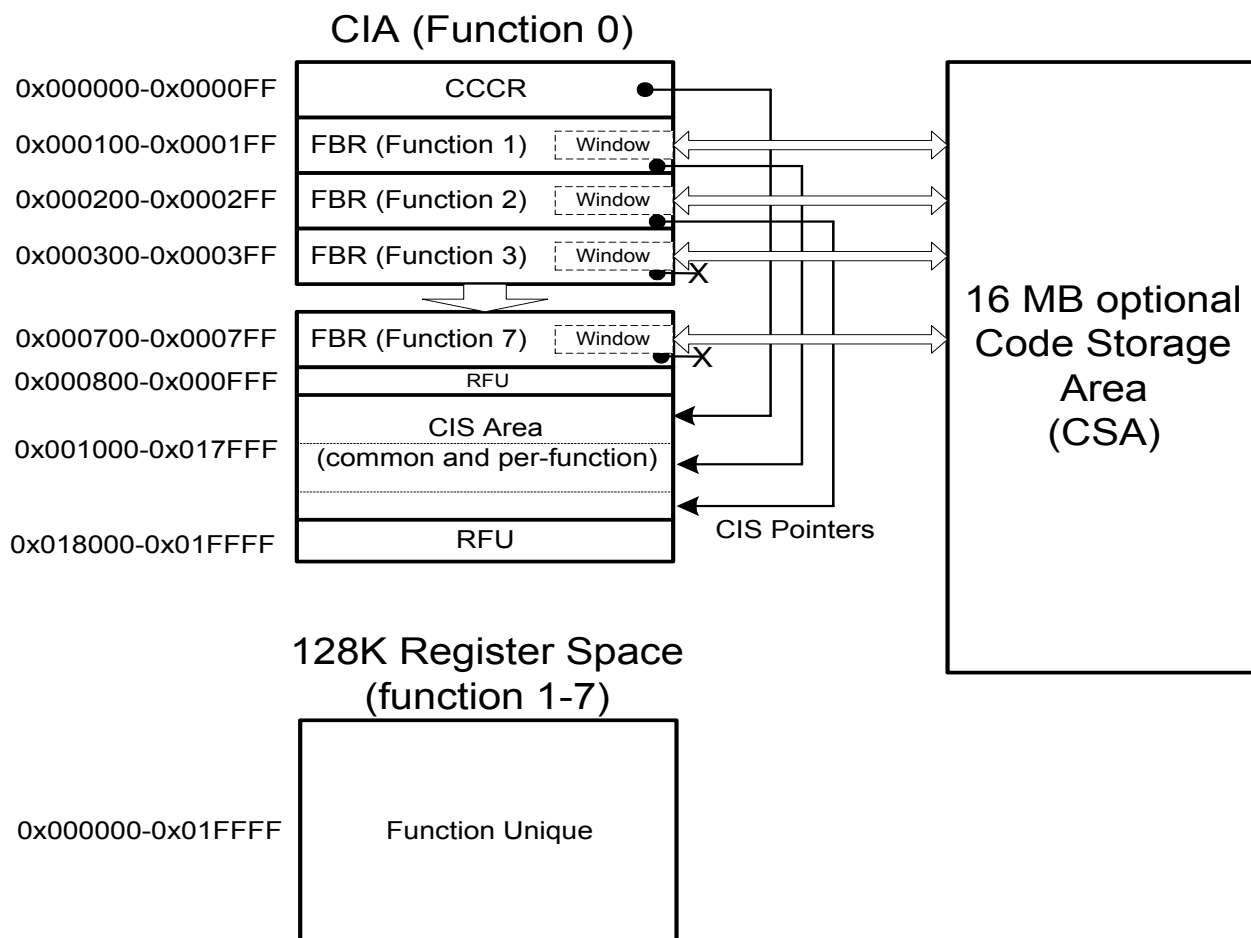

Figure 6-1 SDIO Internal Map
Each SDIO card may have from 1 to 7 functions plus one memory function built into it. A function is a self contained I/O device. I/O functions may be identical or completely different from each other. All I/O functions are organized as a collection of registers. There is a maximum of 131,072 (2^{17}) registers possible for each I/O function. These registers and their individual bits may be read Only (RO), Write Only (WO) or Read/Write (R/W). These registers can be 8, 16 or 32 bits wide within the card. All addressing is based on byte access. These registers can be written and/or read one at a time, multiply to the same address or multiply to an incrementing address. The single R/W access is often used to initialize the I/O function or to read a single status or data value. The multiple reads to a fixed address are used to read or write data from a data FIFO register in the card. The read to incrementing addresses is used to read or write a collection of data to/from a RAM area inside of the card. Figure 6-1 shows the mapping of the CIA and optional CSA space for an SDIO card.
The SDIO card has a fixed internal register space and a function unique area. The fixed area contains information about the card and certain mandatory and optional registers in fixed locations. The fixed locations allow any host to obtain information about the card and perform simple operations such as enable in a common manner. The function unique area is a per-function area, which is defined either by the Application Specifications for Standard SDIO functions or by the vendor for non-standard functions. Figure 6-1 shows the internal map of an SDIO card with multiple functions.